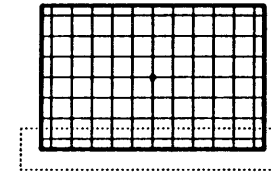

FIG. 17
29. RJ83 (PIN) controls bowing of the blue line along the bottom of the screen. Adjust RJ83 so that the blue line is at the bottom of the screen at its most parallel point to the green and not necessarily converged on top of it. See Fig. 17.